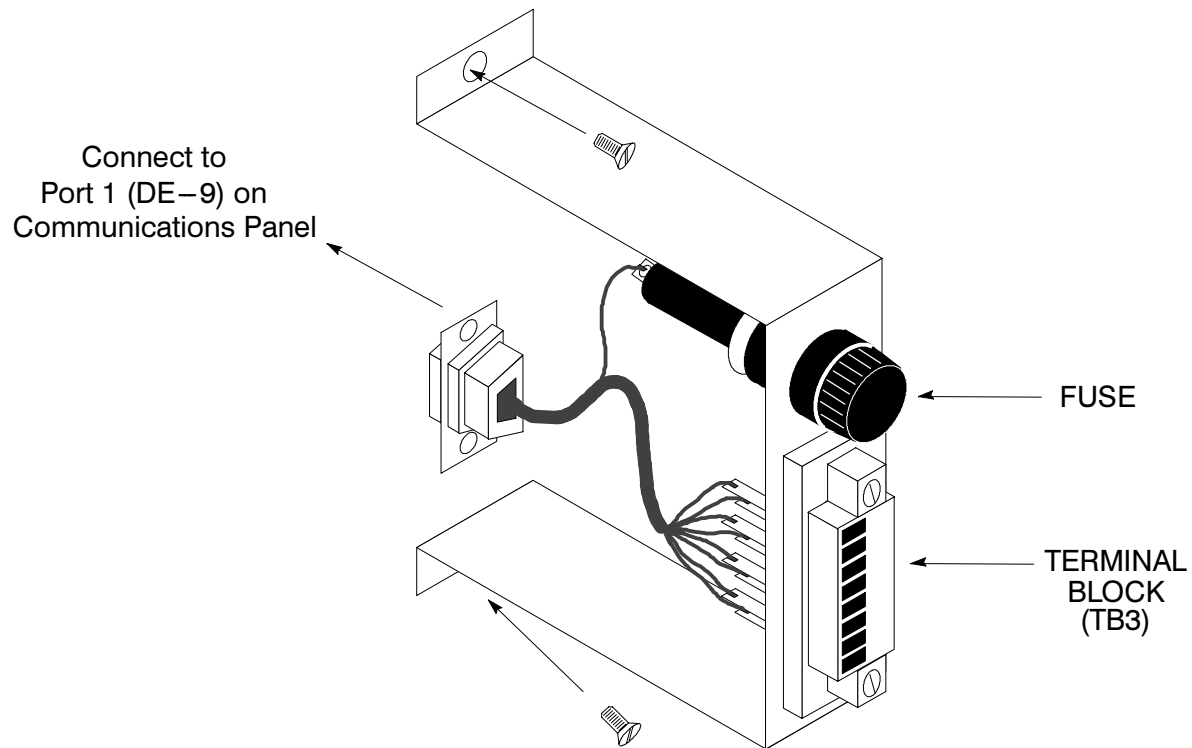
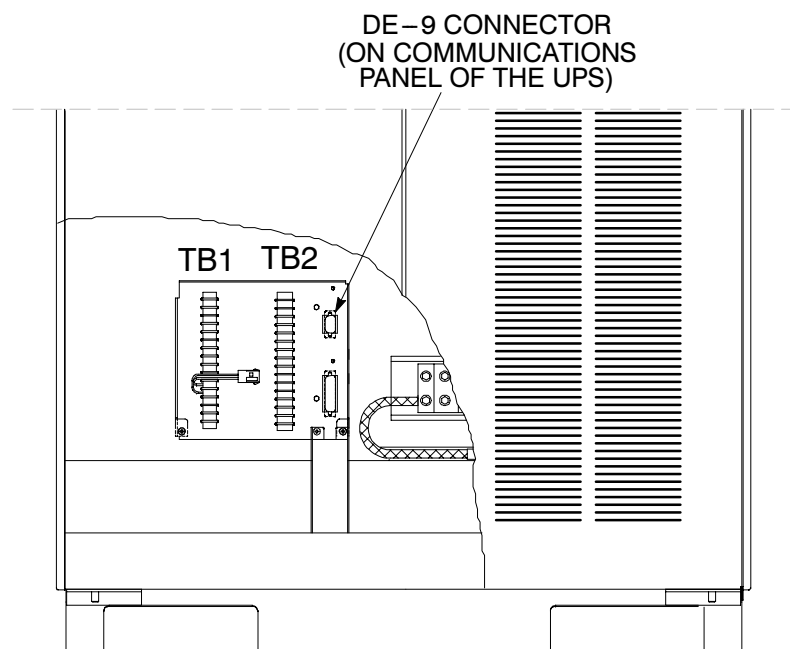

Figure 24. Terminal Block Bracket
Figure 25. Wiring an RIM to the UPS
3. If not already installed, locate the RMP adapter cable assembly (see Figure 24) in the spare parts kit. Mate the DE–9 connector on the back of the terminal block into the DE–9 connector on the Communications Panel of the UPS (see Figure 25). Use two screws from the spare parts kit to secure the terminal block bracket to the Communications Panel.